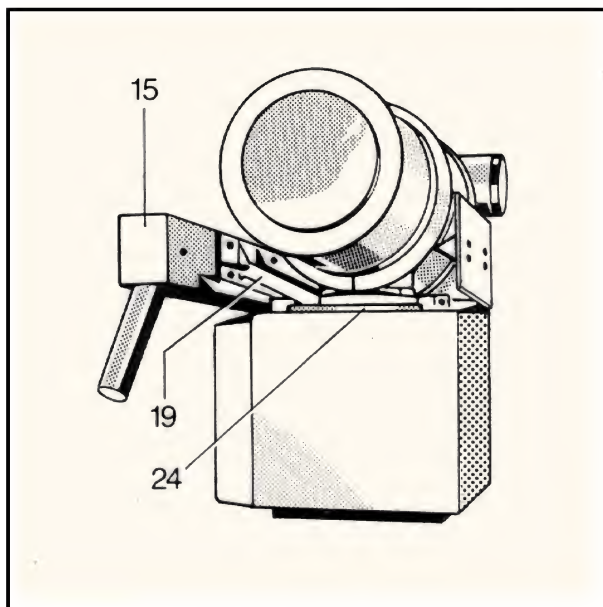

Fig. 12
Mount control handle (Fig. 12/item 15) with support arm (item 23) and flange (item 24) between tube and collimator.